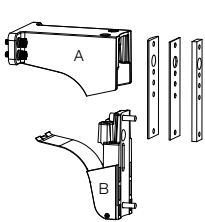
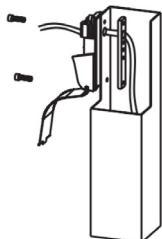
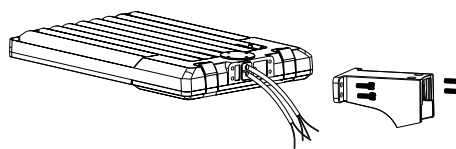

Fig. 1
Fig. 2
Fig. 3
1. Drill two (2) 10mm holes into the surface that the luminaire is being attached to.
2. Slide Part B out of the fixed mount assembly and affix it to the pole with two (2) 8mm Allen bolts. **NOTE:** If the pole is round, you must remove the inner round silicone gasket. (Fig. 1 and Fig. 2) **Do not overtighten the bolt, the recommended torque value is 4.5 Nm (40 in/lbs).**
3. Remove and discard the ratchet arm by loosening the two (2) 8mm bolts that connect the mount to the bottom of the luminaire.
4. Route the wire leads through the Fixed Mount Part A and attach the luminaire to the Mount with the four (4) 8mm Allen bolts. (Fig. 3) **Do not overtighten the bolt, the recommended torque value is 4.5 Nm (40 in/lbs).**